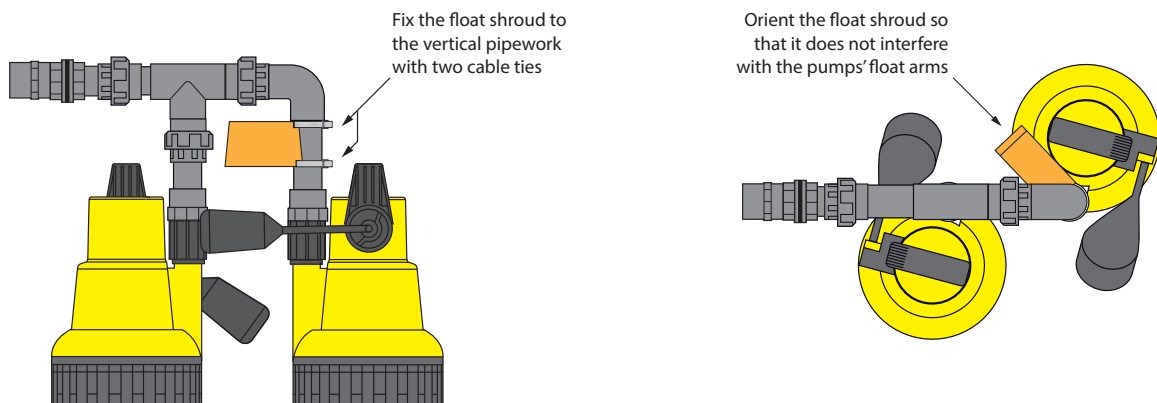

Figure 5. Fixing and orienting the float shroud.
2. The mini float switch should be installed in the float shroud. The float shroud should be positioned on the vertical pipework of the rear pump so that it butts up to the base of the elbow and secured with cable ties. See Figure 5.